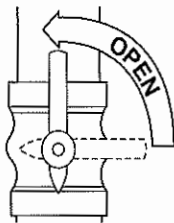

Fig. 12 – Open Valve
10. Open the external manual gas valve (see Fig. 12).